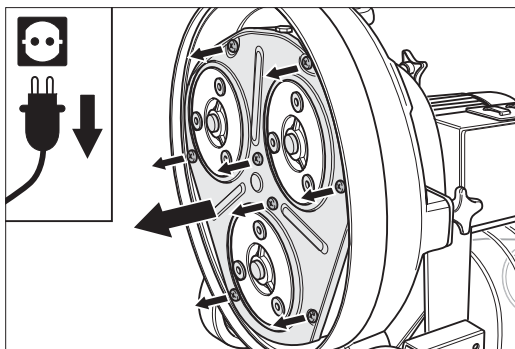

Fig. 36 Then remove the eight screws and pull off the cover.
- 6 Remove the eight fixing screws of the cover and remove the cover (Fig. 36). Check at this point whether the sealing felt on the inside of the cover needs to be replaced (see *Section 6.6, Changing the sealing felt on the cover of the sanding disc gear*).